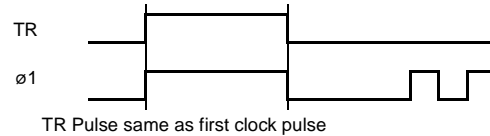

Figure 32: TR-Ø1 Guardband Can Be Equal To 0
- The TR-Ø1 guardband may be equal to 0, causing TR and Ø1 to go high simultaneously and low simultaneously (Figure 32). This is a requirement of some Canon CIS sensors.